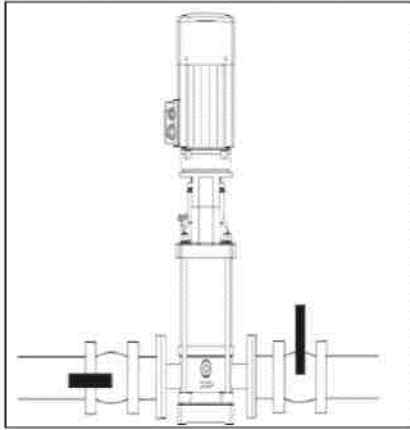

Figure 2
- 6- Close the pump discharge valve and open the valve located on the suction side (See Figure 2).